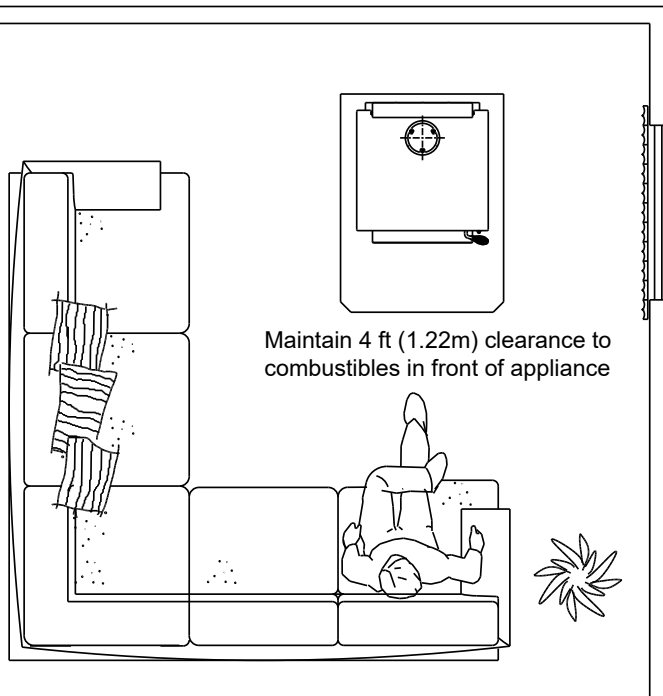

Figure 14.1
- Do NOT place combustible objects within 4 ft (1.2 m) of the front of appliance (**Figure 14.1**).